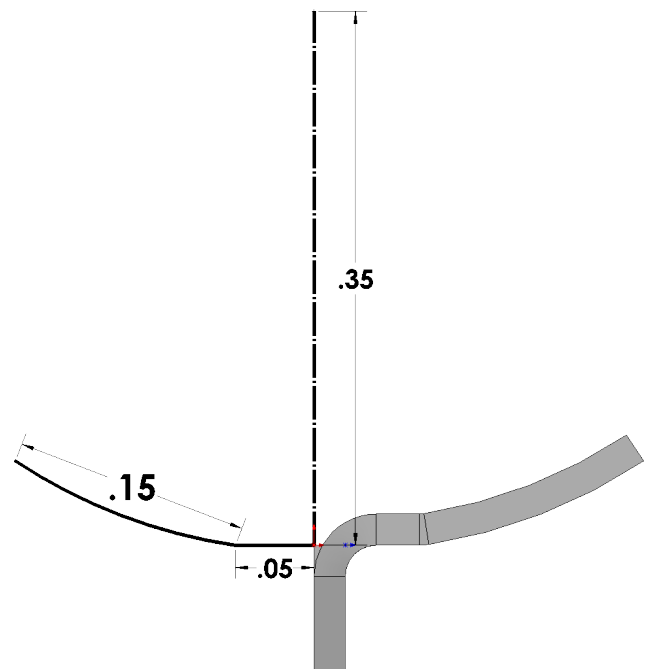

Fig. 22
Step 14. Use top endpoint of vertical construction line for centerpoint of arc and left endpoint of the line as first endpoint of arc, **Fig. 22**.
Step 15. Click **Smart Dimension**  (S) on the Sketch toolbar.
Step 16. Dimension length of arc **.15**, **Fig. 22**.